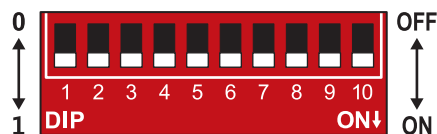

FIGURE 1
**NOTE:** When several DIP Switches are on, the Decoder defaults to the highest Switch value. As Figure 1 shows, the effect will be 7 colors smooth at 7 speed level.